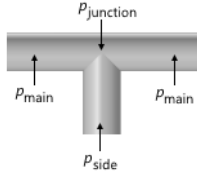

Figure 2-1: A T-junction with local pressure indications.
The **T-junction** is intended for a point that is connected to exactly two collinear main branches and one perpendicular side branch. If this condition is not met, a warning message will be issued when solving. The flow can go in either direction through each of the main branches and the side branch. See Figure 2-1.
- The **Loss coefficients** option allows you to enter a value or expression for the **Loss coefficient main branch**  $K_{\text{main}}$  for the energy loss between main branch and junction (the default is 0.1) and the **Loss coefficient side branch**  $K_{\text{side}}$  for the energy loss between the side branch and junction (the default is 1.2). Both are dimensionless numbers. See Figure 2-1.